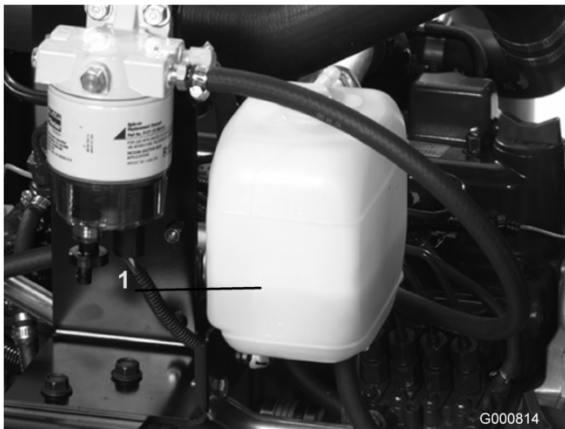

Figure 19
1. Carefully remove radiator cap and expansion tank cap (Figure 19).
2. Check level of coolant in radiator and in expansion tank (Figure 19).